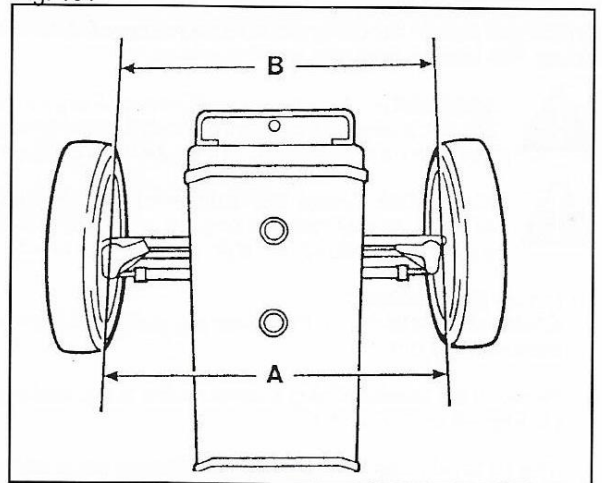

Fig.102
2. Check the wheel toe-in (Fig. 102) measured on the centre line of the axle at the wheel rim. Distance 'A' must be 0-4 mm (8-1/8 in) greater distance 'B'.